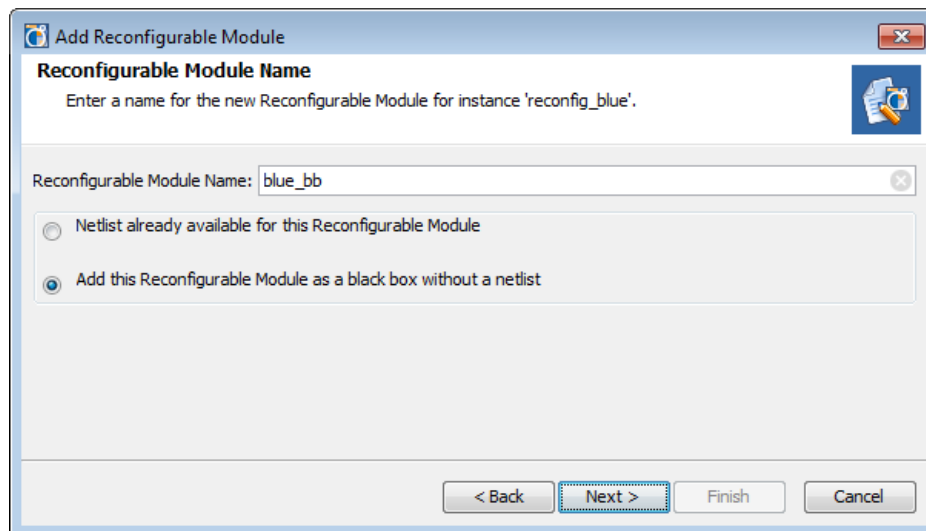

Figure 4-10: Adding a Black Box as a Reconfigurable Module
1. Use the same **Add Reconfigurable Module** command, but select the **black box** option. No netlist is associated with this module, shown in Figure 4-10.